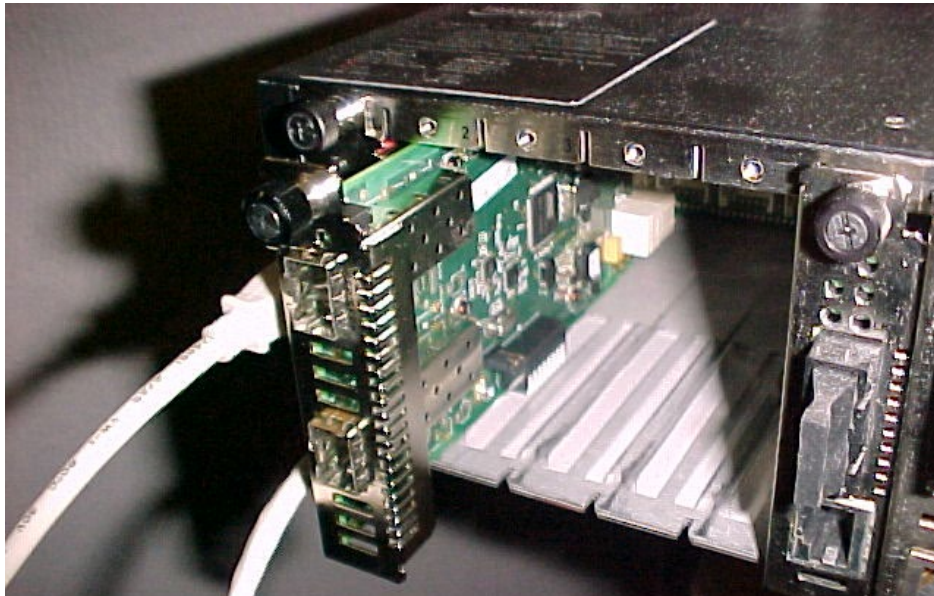

Figure 3: Chassis Installation
4. Push in and rotate clockwise the panel fastener screw to secure the C3100 to the chassis (Figure 3).